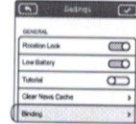
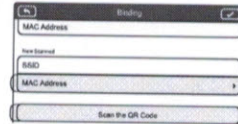
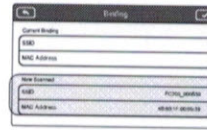
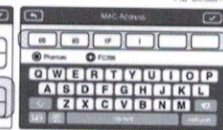

Figure 36
Figure 37
Figure 38
Figure 39
- (1) Power on the camera and Range Extender.
- (2) Approximately 30 seconds later, press the Binding Reset Button on the Range Extender with a pin until the SYSTEM indicator turns off. The Range Extender will then restart automatically.
- (3) Approximately 30 seconds later, the SYSTEM indicator will start to blink green, indicating that the Range Extender is ready for binding.
- (4) Enable Wi-Fi on your mobile device then select "Phantom_XXXXXX" (the SSID of your Range Extender) from the Wi-Fi network list.
- (5) Run the DJI VISION App then tap -> Settings -> General -> Binding (Figure 36). Select "Scan QR Code" to scan the camera QR code on the bottom of aircraft (Figure 37). Get the camera SSID (E.g. FC200_XXXX) and the MAC address (Figure 38). You can also skip the scan and enter the camera MAC address directly (Figure 39). The MAC address can be found on the camera label.
- (6) Tap the tick ☒ in the top right corner. The Range Extender should automatically restart. Binding is now complete.